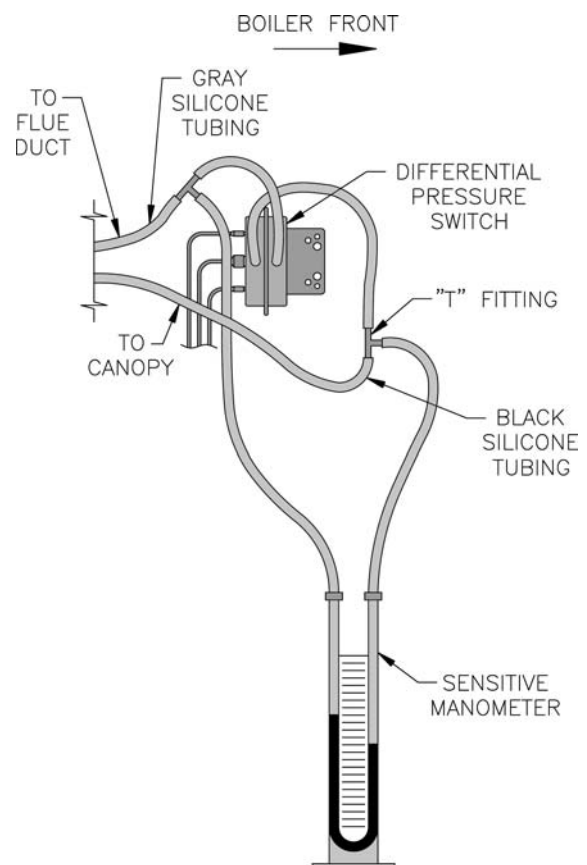

Figure 54: Differential Pressure Measurement
G. PROCEDURE FOR MEASURING DIFFERENTIAL PRESSURE (See Figure 54).